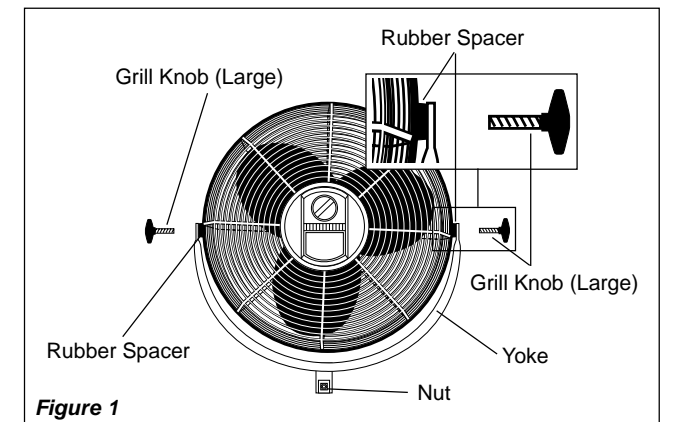

Figure 1
1. Lay Fan Head on flat surface, so the front side is facing down. Hold Yoke so the side with the nut is facing up. Loosely attach one Grill Knob and one Rubber Spacer to the Head Assembly. Attach the other Grill Knob and Rubber Spacer to the Head Assembly and FIRMLY tighten. Return to the first Grill Knob and FIRMLY tighten. (Figure 1)